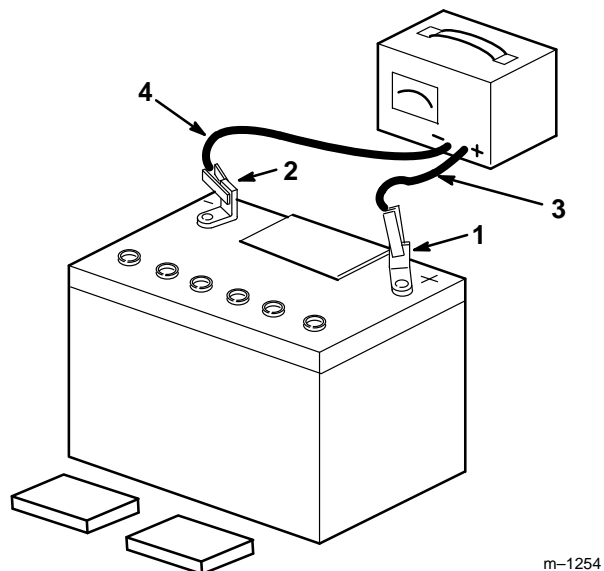

Figure 6
6. Leave the covers off and connect a 3 to 4 amp battery charger to the battery posts (Fig. 6). Charge the battery at a rate of 4 amperes or less for 4 hours (12 volts).
- When the battery is fully charged, disconnect the charger from the electrical outlet then from the negative and positive battery posts (Fig. 6).